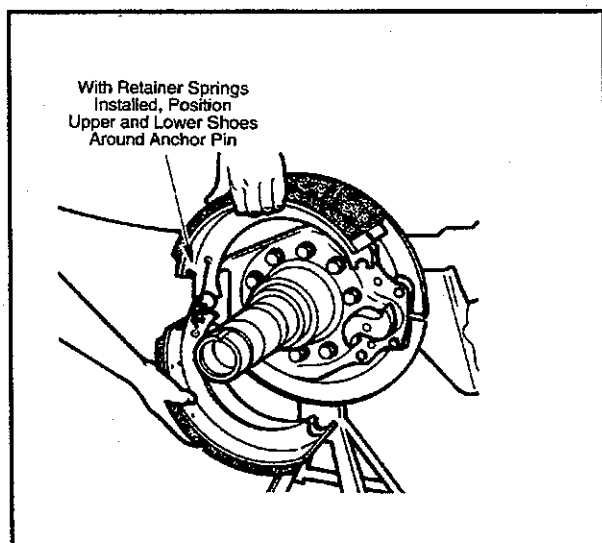

Figure 17—Position Shoes
18. Position upper and lower shoes around anchor pin. (See Figure 17—Position Shoes.)